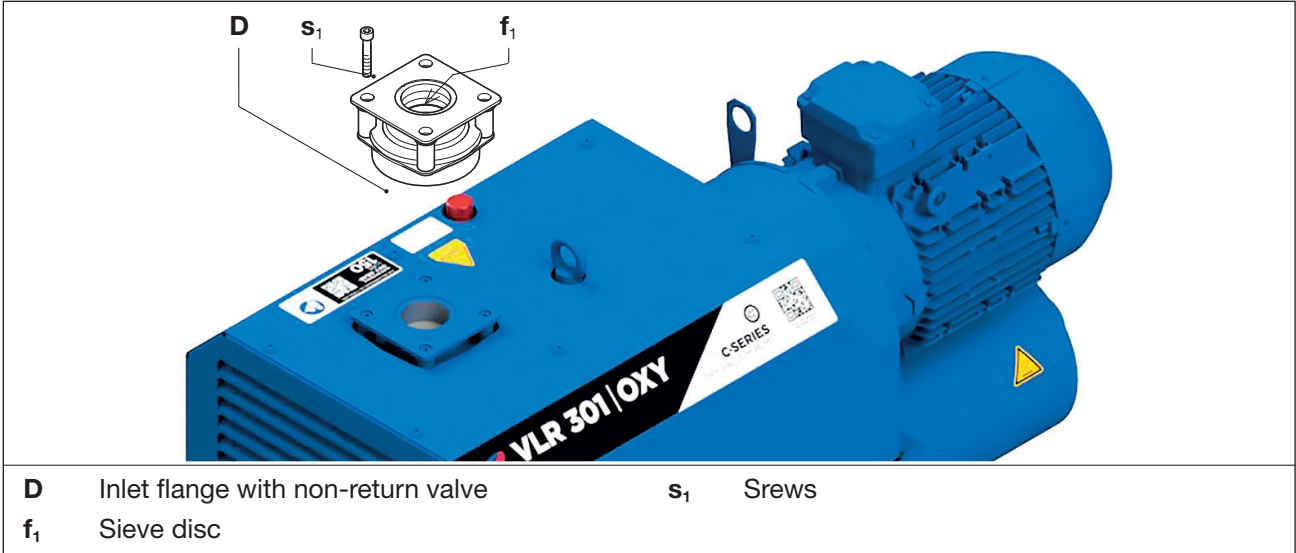

Fig. 6 Inlet flange with sieve disc
- b) Take off the inlet flange (Fig. 6/D) after releasing the screws (Fig. 6/s₁).
- c) Remove the the sieve disc (Fig. 6/f₁), check and replace if necessary. Also check the non-return valve for pollution and replace if necessary.
- d) Insert the sieve disc and remount the inlet flange (Fig. 6/D). Tighten the screws (Fig. 6/s₁) crosswise. Tightening torque: 24.6 Nm